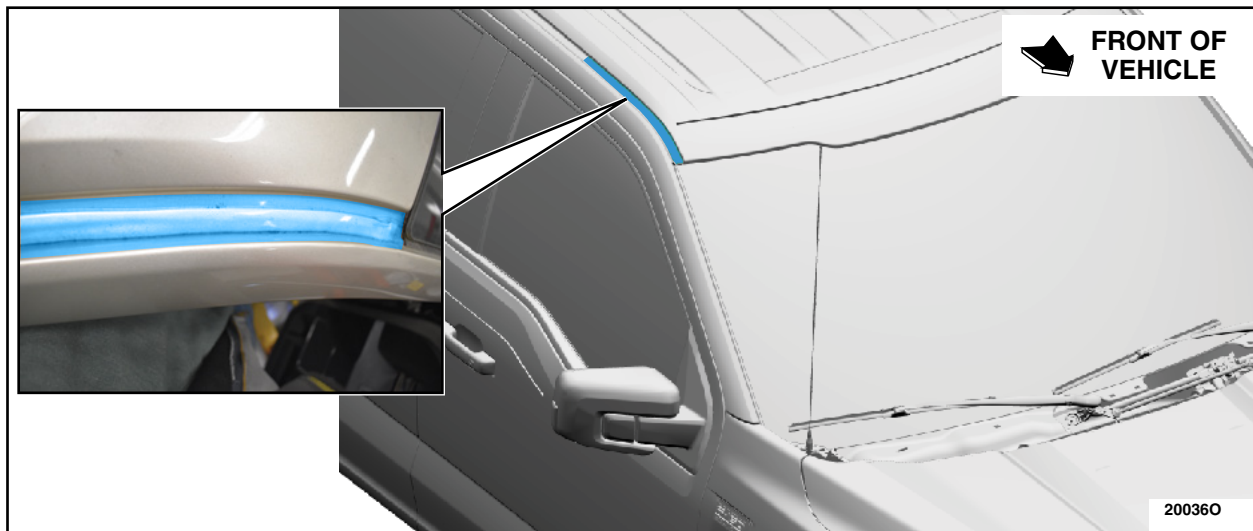

FIGURE 16
28. Apply some Motorcraft® TA-32 Clear Silicone Rubber to the front RH roof ditch. See Figure 16. Allow the sealer to cure, then proceed to Step 27.